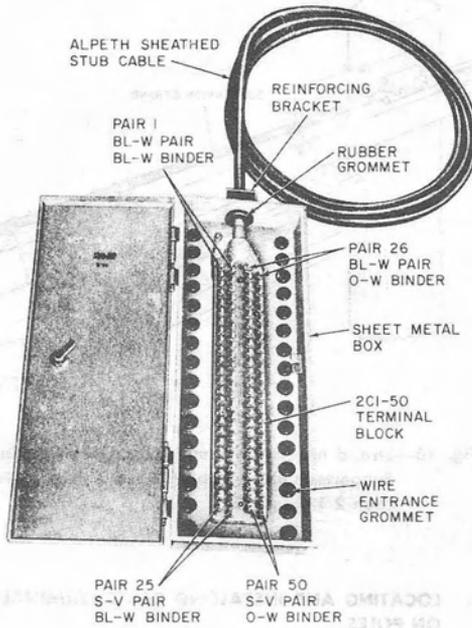

Fig. 12—53A4-50P Cable Terminal
2.07 The 53-type cable terminals are nonprotected terminals designed for pole or wall mounting (see Table B). They consist of a 2C1-50 terminal block, available with either an alpeth sheathed or lead sheathed stub cable, mounted in a weatherproof galvanized sheet metal box (Fig. 12).